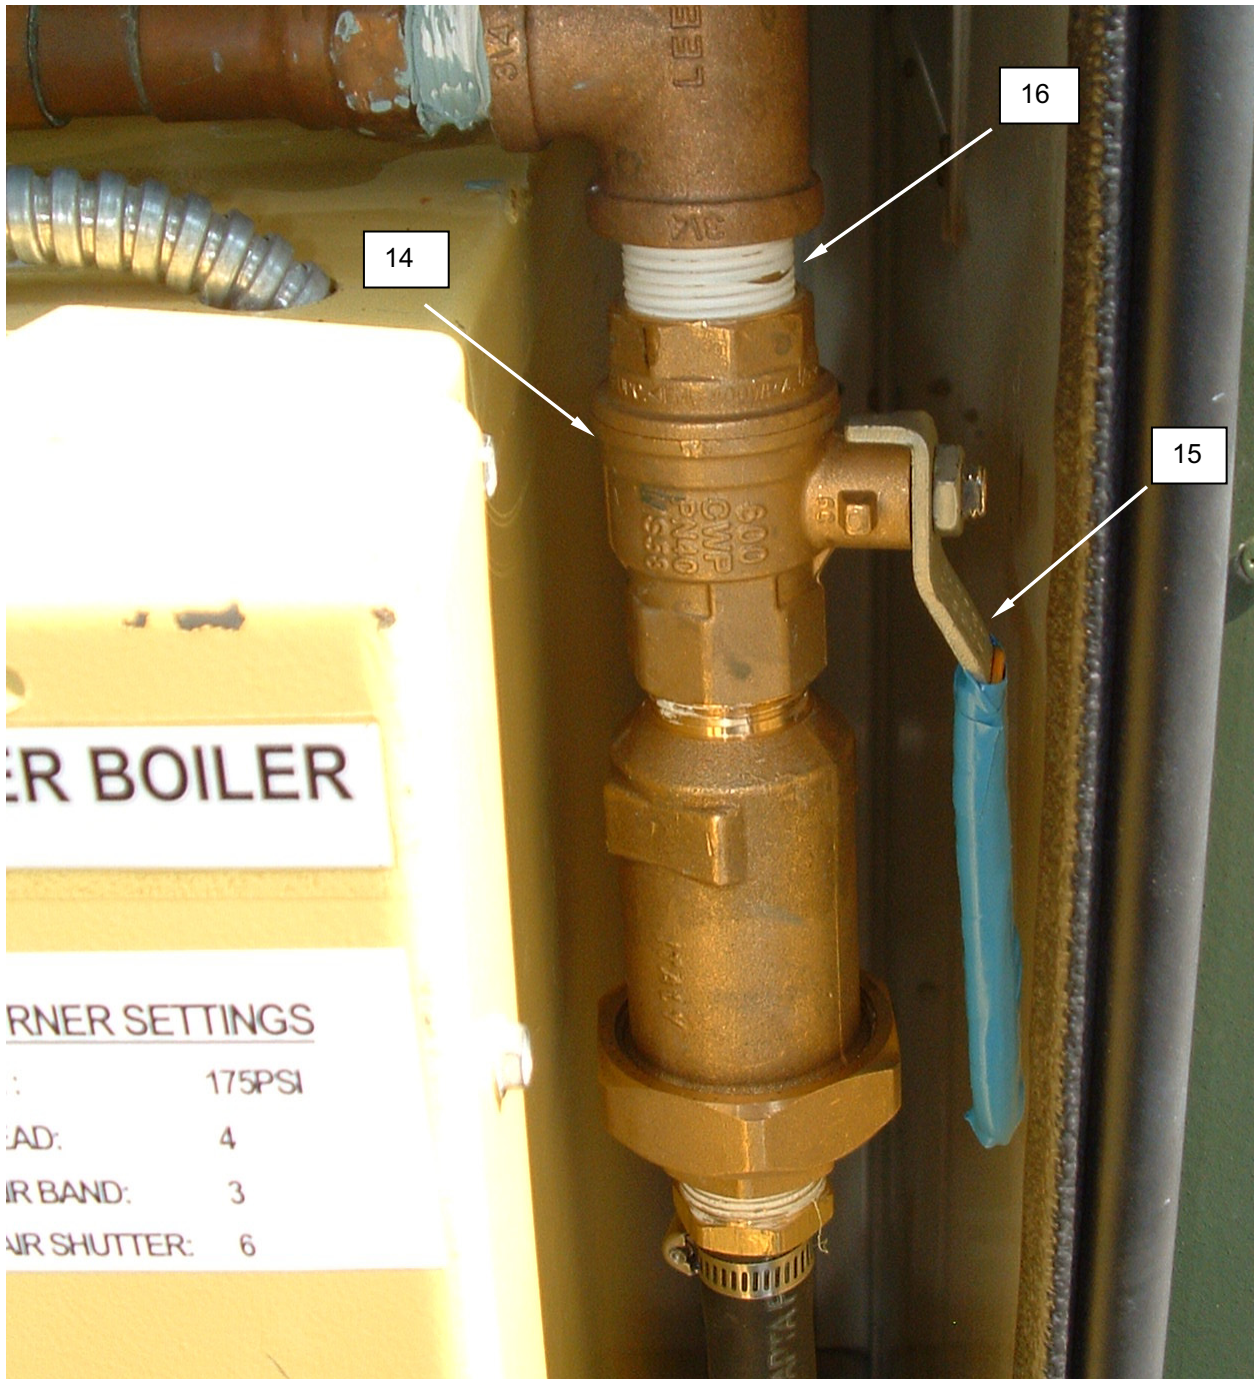

Figure 7. Replace Brass Hand Operated Valves.
3. Note position of valve (**Figure 7, Item 14**) and valve operating handle (**Figure 7, Item 15**).
4. Remove the nut retaining the operating handle (**Figure 7, Item 15**), and remove the operating handle.
5. Use a pipe wrench to steady attached plumbing, and unscrew valve (**Figure 7, Item 14**) to be replaced.
6. Remove the nut retaining the operating handle (**Figure 7, Item 15**) on the replacement valve, and remove the operating handle.
7. Apply pipe sealing compound to threads of replacement valve (**Figure 7, Item 14**) or attaching nipple (**Figure 7, Item 16**).
8. Use a pipe wrench to steady attached plumbing, and install replacement valve (**Figure 7, Item 14**).
9. Ensure replacement valve (**Figure 7, Item 14**) is tight and correctly aligned to ease of operation.